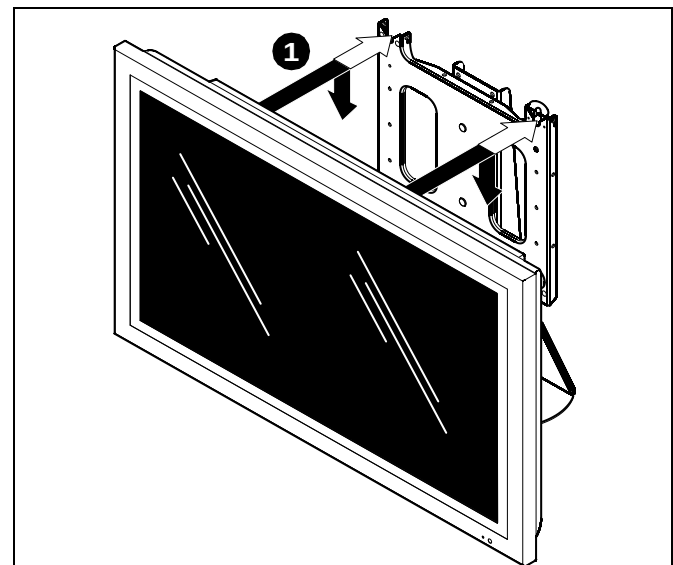

Figure 4
1. While supporting both sides of display, align four mounting buttons on display or interface bracket with four mounting holes in mount. (See Figures 4 and 5)
2. Lower display into place listening for audible "click" to ensure recessed area of mounting buttons are properly seated in lower area of mounting holes. (See Fig. 4 and 5)